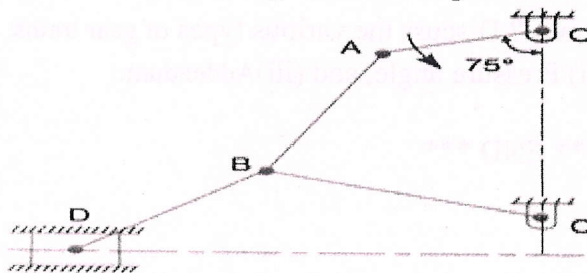

Fig 1
- 5 In Fig.1 the angular velocity of the crank OA is 600 r.p.m. Determine the linear velocity of the slider D and the angular velocity of the link BD, when the crank is inclined at an angle of 75° to the vertical. The dimensions of various links are: OA = 28 mm; AB = 44 mm; BC = 49 mm; and BD = 46 mm. The center distance between the centres of rotation O and C is 65 mm. The path of travel of the slider is 11 mm below the fixed point C.